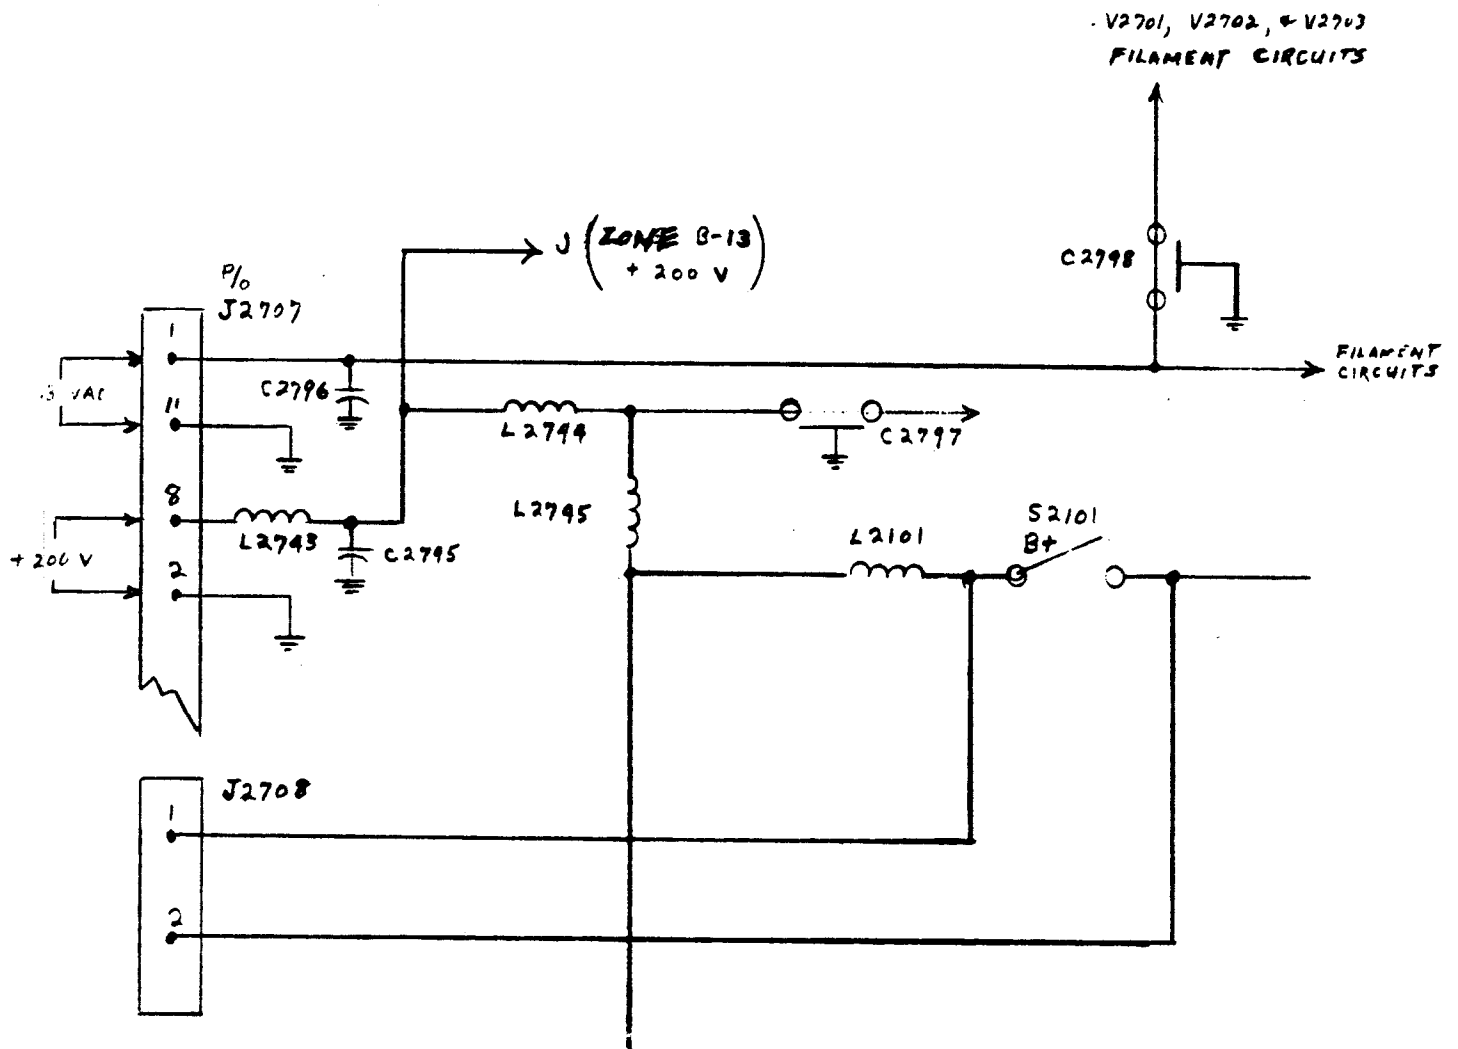

FIGURE 1
- a. Figures III(A)-4-5b, III(A)-4-6b, and III(A)-8-1b should be changed in accordance with the information provided in figure 1 of this addendum.